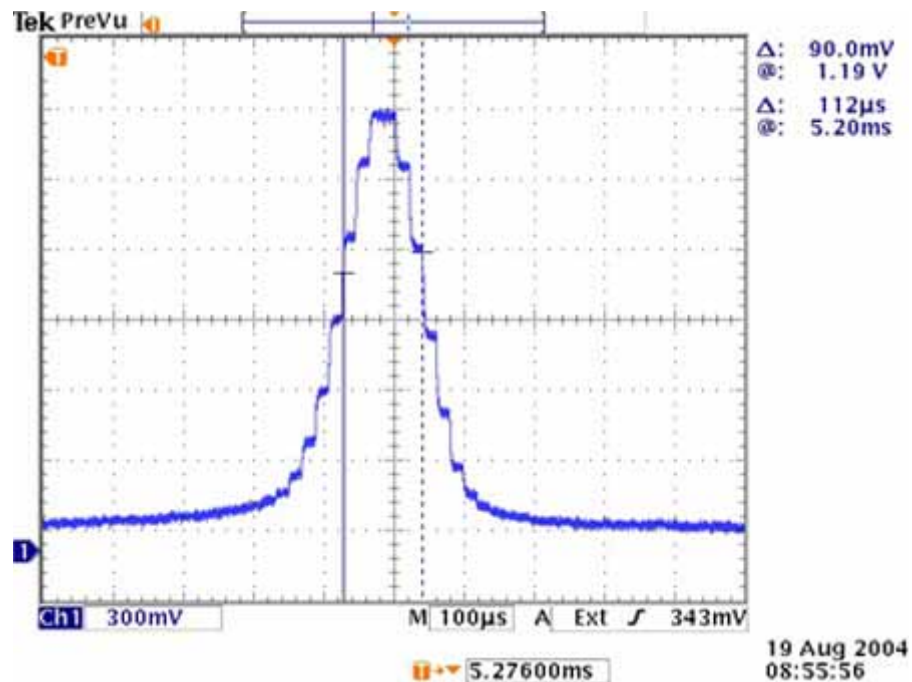

Figure 3-17. Typical Femtosecond Autocorrelation
- a.) A combination of wave plate adjustment and neutral density filter selection should provide a signal as shown in Figure 3-17.